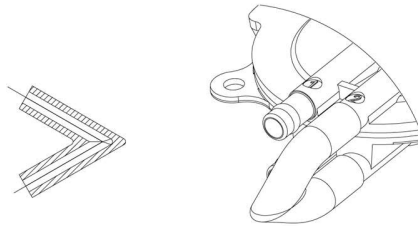

Figure 8 V coupler for Series configuration pump.
- Ports 2 and 4 must be linked – V coupler provided in the kit as shown in Figure 8.